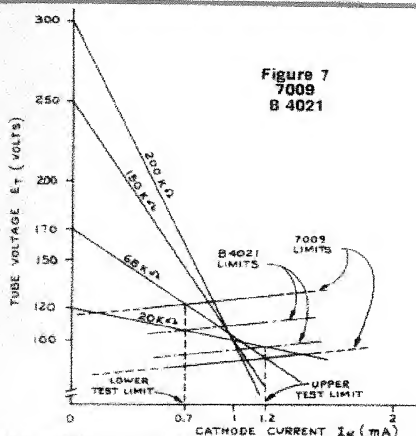

Figure 7
**TRANSISTOR DRIVE:** The pre-bias limits of the Nixie tube imposes voltage requirements on transistors used to drive them. The pre-bias voltage is the back voltage requirement imposed on the transistor. This implies that transistors with 75 to 100 volt ratings are required. Two such transistors are the RCA 2N398 and GT 1200. The 2N398 is a PNP Xistor and requires nine transistors to be conducting. The "cut-off" 2N398 would be associated with the "on" Nixie tube cathode. The GT 1200 is a NPN Xistor and the one associated with the "on" cathode would be conducting. There are many other transistors capable of driving the Nixie tubes. The Nixie tube types more compatible with transistors are the 7009 and B4021 (BD-244). Both of these tubes can be pre-biased to a lower voltage and hence require a lower drive signal. The difference in the tubes as noted in Figure 7 are the tighter production limits and lower B+ voltage requirements for the B4021.